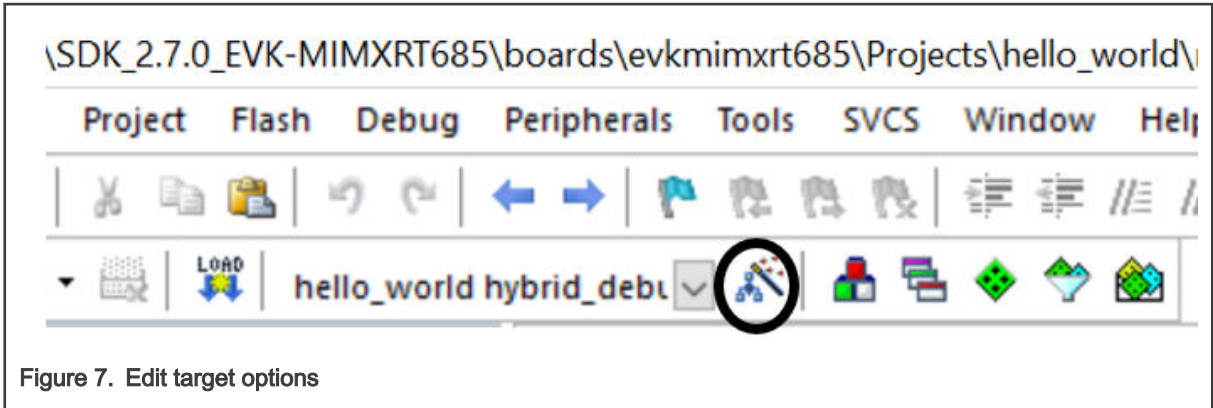

Figure 7. Edit target options
- f. Click the target options button, as shown in Figure 7.